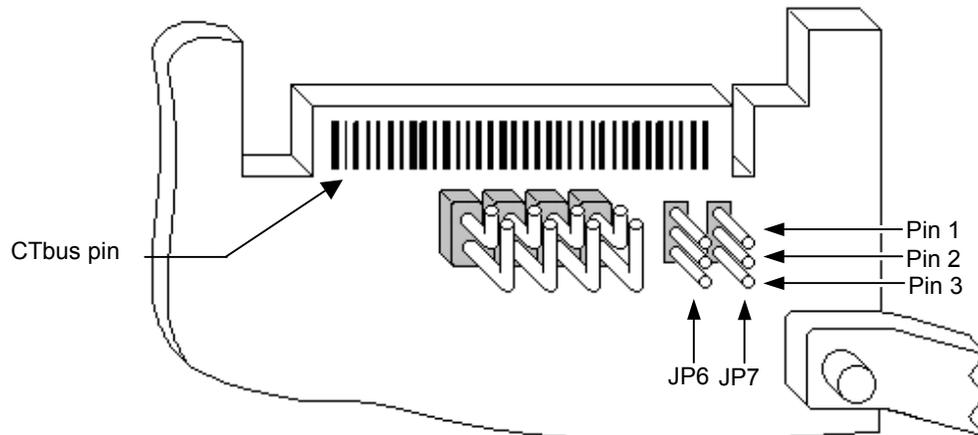

Figure 5. Jumper blocks JP6 and JP7
- Install jumpers on pins 1–2 of JP6 and JP7 as shown in Figures 5 and 6.